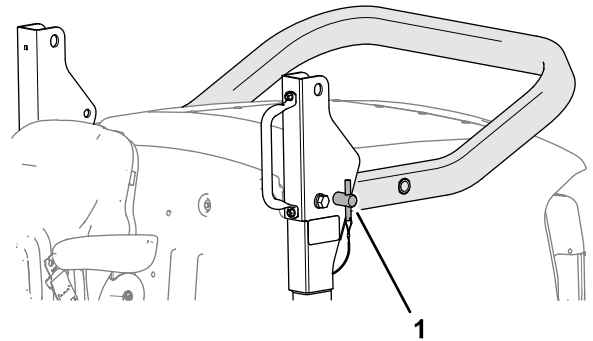

Figure 23
2. Remove the roll-bar pins to the pivot brackets (Figure 23).